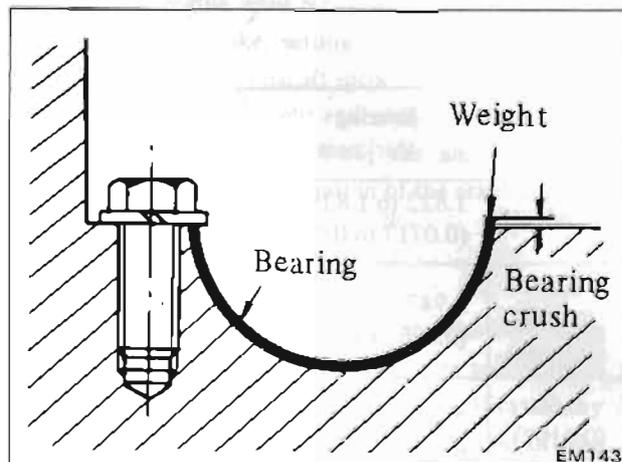

Fig. EM-60 Bearing crush check
3. Then, measure bearing crush with a feeler gauge. See Figure EM-60. The standard bearing crush value is listed below.